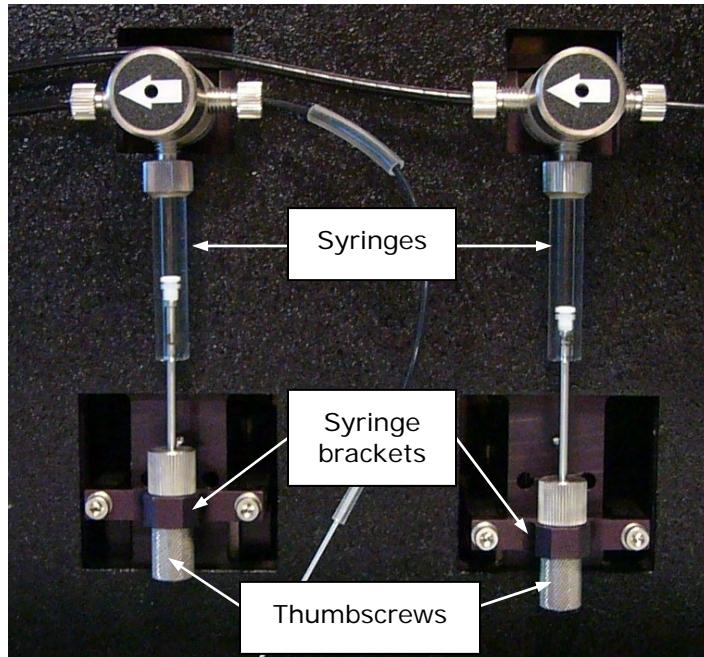

Figure 10: The dispense module; close-up view of the syringes
13. Install both syringes, referring to **Figure 10**.